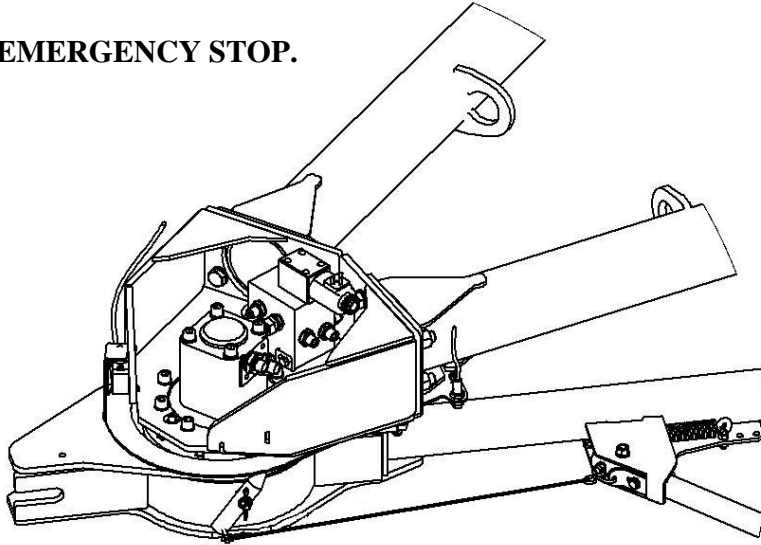

Fig 5.2
- 5.4 This consists of a release guard which is connected by a wire to the lever arm, and this activates a small electrical switch via a sliding contact (14, fig. 5-2). If the electrical circuit is broken, the hydraulic oil flow is cut off and all functions stop immediately. This is indicated on the control box display by 'EMERGENCY STOP'